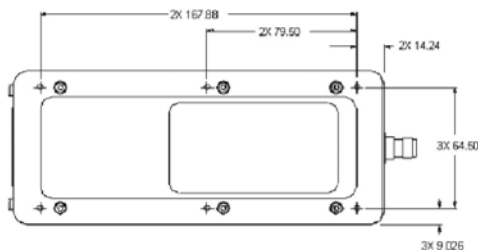

Figure 3: Bottom View
The 9522A incorporates (6) mounting holes on its bottom surface that can aid in its mounting. See Figure 3 for locations of these features. It is recommended that a thread-forming screw be used to mount the 9522A via these features. Particularly, a Textron Camcar® Taptite® II Thread-Rolling Fastener of M3.5x0.6 thread type is recommended. This fastener has a 15IP Torx Plus® pan head and is available in lengths of 6, 8, 12, 16, and 20 mm as part number 3BE-P802-00, 3BE-P803-00, 3BE-P8185-00, 3BE-P804-00, 3BEP8186-00, and 3BE-P8187-00 respectively. Length should be chosen to ensure that penetration into the 9522A housing does not exceed 11 mm.